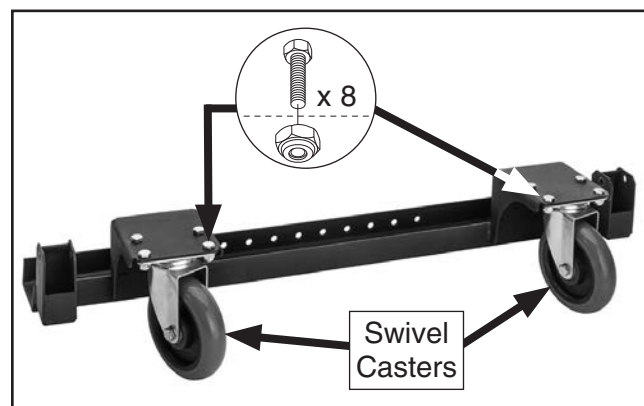

Figure 5. Swivel casters attached to leg support bracket.
5. Attach swivel casters to each side of leg support bracket using (8) M8-1.25 x 16 hex bolts and (8) M8-1.25 lock nuts (see **Figure 5**).